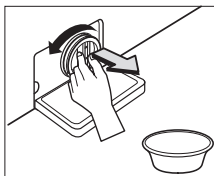

Fig.14
- Turn the pump filter open to the left. (Fig.14)